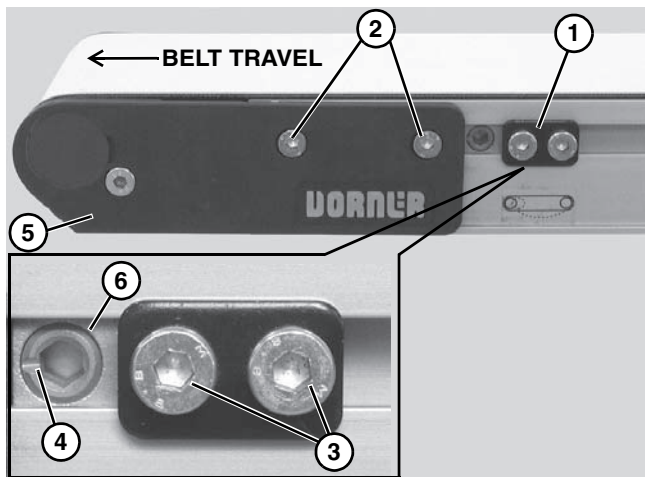

Figure 51
Non V-guided belt conveyors are equipped with belt tracking cam assemblies (**Figure 51, item 1**) for belt tracking adjustment.
1. Ensure head plate fastening screws (**Figure 51, item 2**) on both sides of conveyor are tightened.
2. On both sides of conveyor, loosen two (2) cam fastening screws (**Figure 51, item 3**). Adjust cams (**Figure 51, item 4**) until indicator slots (**Figure 51, item 5**) are horizontal and facing end of conveyor. Then slide cam assemblies against head plates (**Figure 51, item 6**) and re-tighten cam fastening screws (**Figure 51, item 3**) to 60 in-lb (7 Nm).
3. On the side toward which the belt is tracking, loosen head plate fastening screws (**Figure 51, item 2**).
4. With the conveyor running, use a 5 mm hex-key wrench to rotate the tracking cam (**Figure 51, item 4**) in small increments until the belt tracks in the center of the conveyor. Then while holding the cam in position, re-tighten the head plate fastening screws (**Figure 51, item 2**) with a 4 mm hex-key wrench to 60 in-lb (7 Nm).